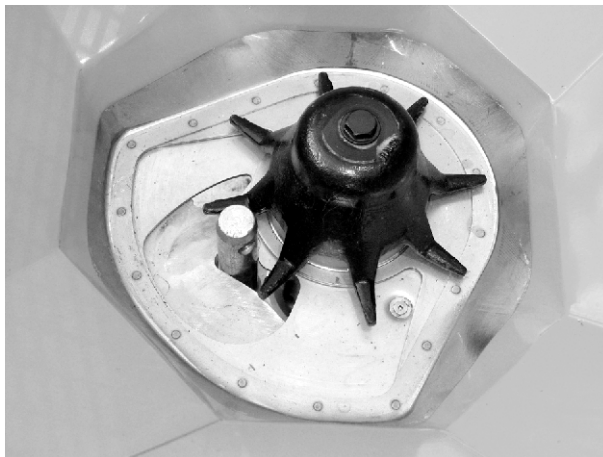

Fig. 58: Lower link pin in metering opening
- ✓ The metering slide is pushed lightly against the pin. See *Fig. 58 Lower link pin in metering opening.*